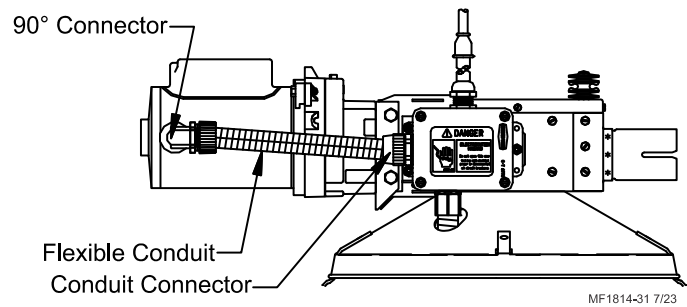

Figure 26. Conduit Installation
6. Single Phase: Install the 90 degree connector, flexible conduit, electrical wire, and conduit connector, **see figure 26.**